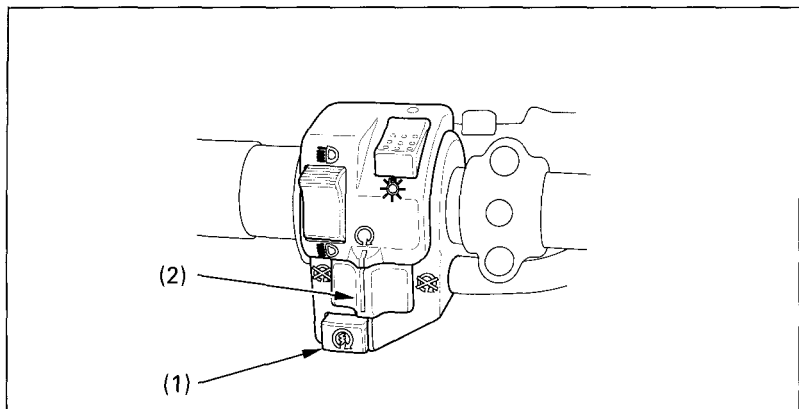

Fig. 2-7 (1) Starter button
The starter button (Fig. 2-7) is below the engine stop switch. To start the engine, press the starter button (1), with the transmission in neutral, the ignition switch ON (I) and the engine stop switch (2) at RUN (O).